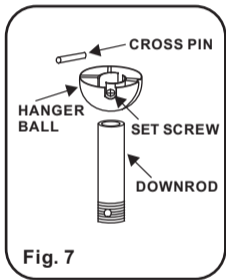

Fig. 7
**Step 3.** Remove the Hanger Ball from the Downrod Assembly by loosening the Set Screw and removing the Cross Pin. (Fig. 7)